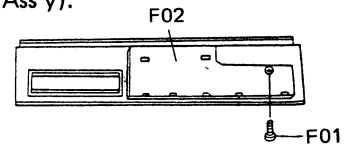

Fig. 2.6
- (1) Refer to Fig. 2.6.
- (2) Remove the Front Panel Ass'y referred to in item 2.3.
- (3) Remove F01, then release the latches located on the Front Panel Ass'y, then F02 (Control & Display P.C.B. Ass'y).